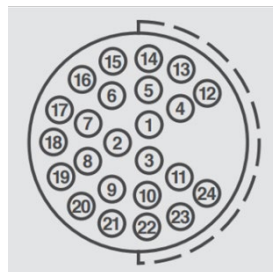

Figure 3-3: Pin configurations for 105-series 24-way type A Fischer (receptacle)
- Experimental wiring for sample measurements. A 24-way Fischer connector is wired from the top of the probe to Harwin pins just above the sample mounting platform. The pin layout for this connector is shown in Figure 3-3, as viewed from above (as the connecting cable mates).